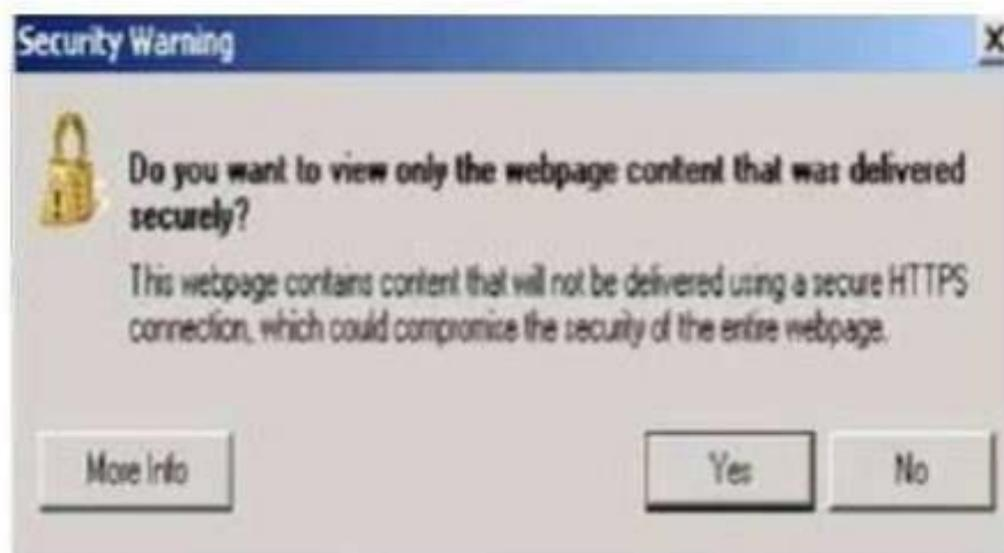

Figure 2 – Pop-Up Security Message
4. If a security message appears “Do you want to view only the web page content that was delivered securely?” (Figure 2). Press “No” to continue.